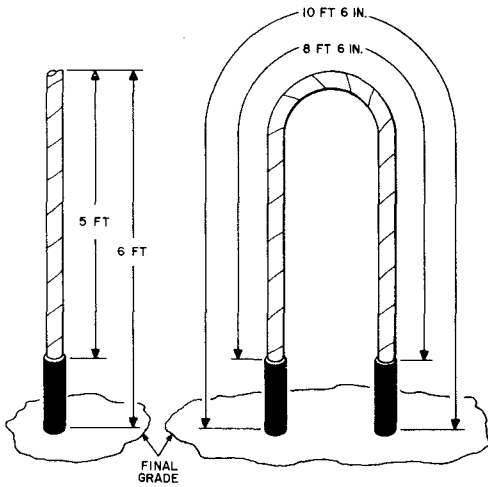

Fig. 20—UP-1248 Cable Closure—Straight Splice—Bridge or Load Splice
5.02 The cut ends or cable loops placed above grade line, by the placing forces, and the sheath openings are shown in Fig. 20 through 23.
7.07 The amount of cable loop or cut ends required is outlined in 5.02, Fig. 20 through 23.